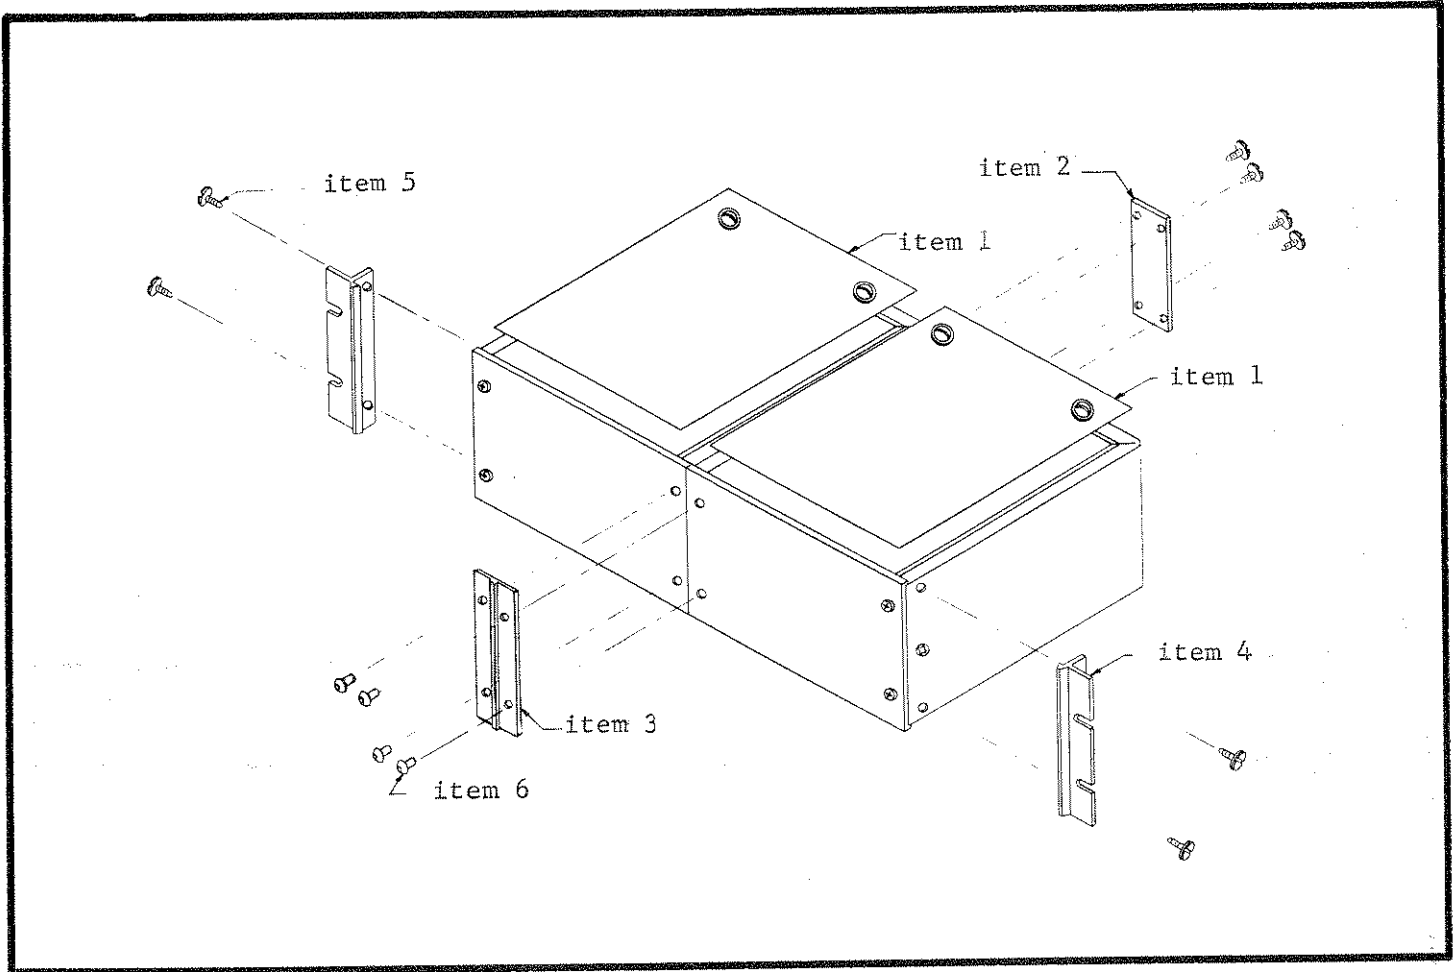

FIGURE 12. Assembly Drawing for Model 4004A Dual Rack Mounting Kit.
b. Procedures. Remove the wrap-around cover on each Source by removing the two corner screws at the bottom of each side. Assemble the rack mounting parts as shown in Figure 12. Attach in this order: cover (1), two rack angles (5), chassis connecting plate (2), and chassis connecting plate (3).